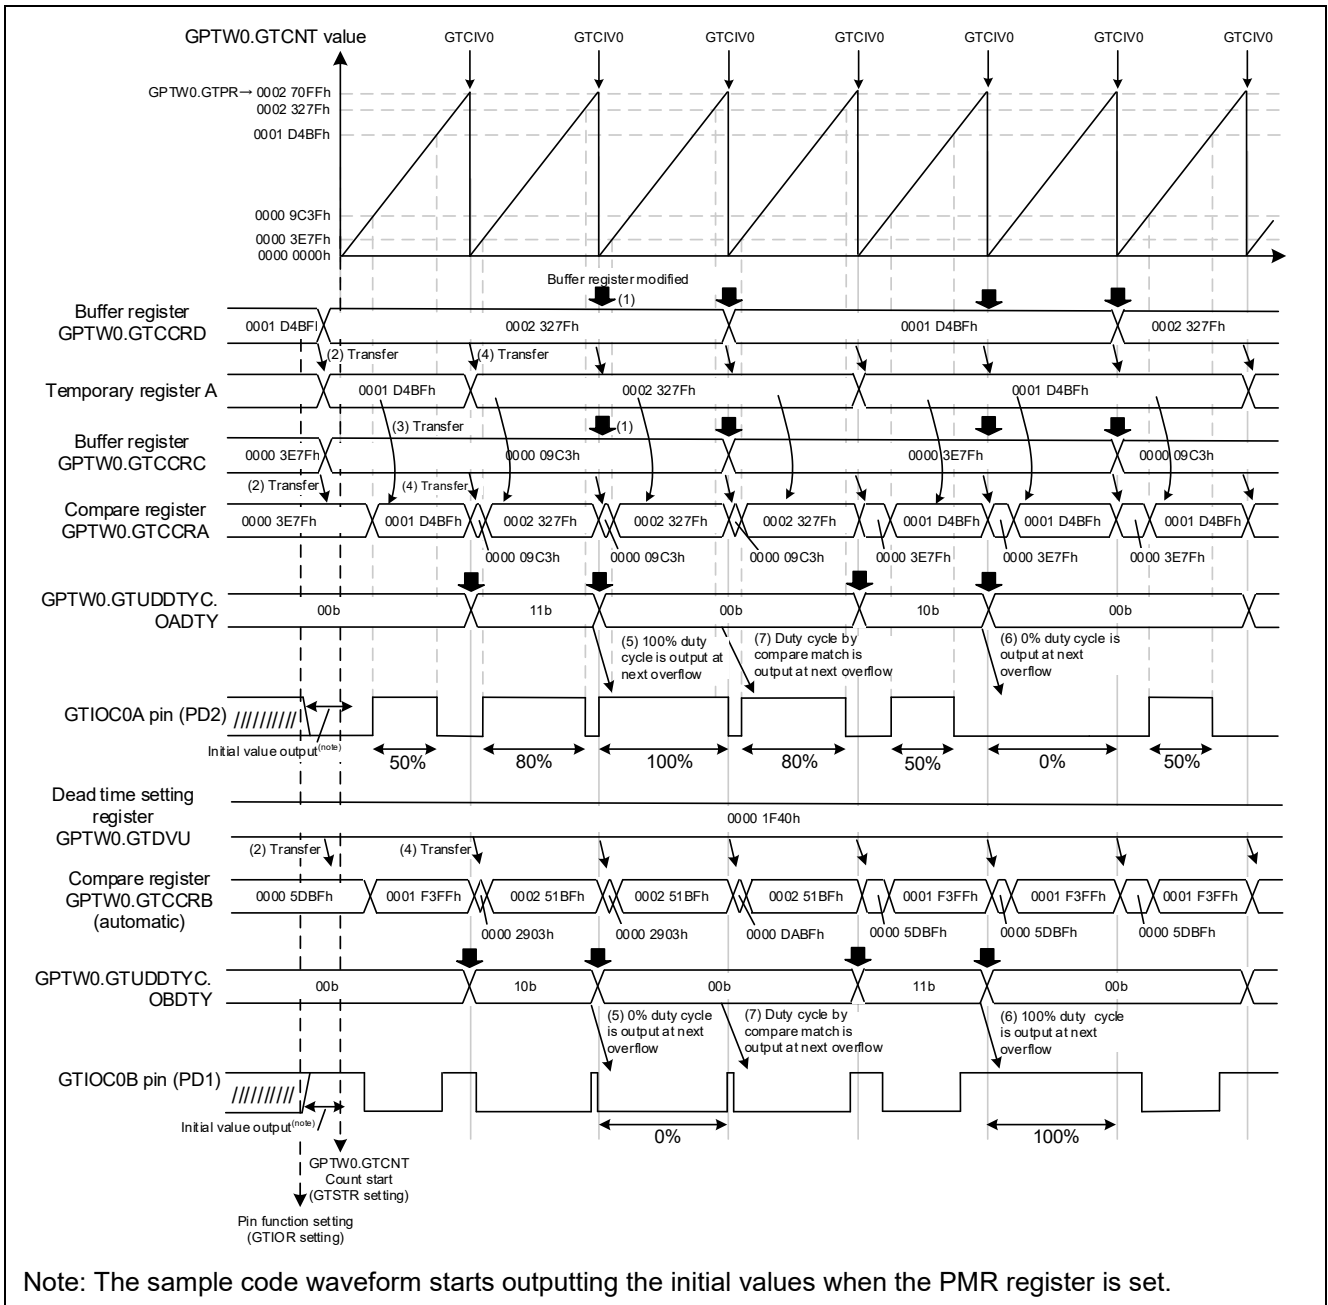

Figure 4.89 Sample Code Operations
- Refer to Figure 4.89 for details on duty change timing
The sample code operations are shown in Figure 4.89. The settings of the duty cycle are changed with each period by modifying the value of buffer registers GTCCRC and GTCCRD at the GTCNT counter overflow interrupt (GTCIV0) ((1) in Figure 4.89).
The initial values of the buffer registers for the code generated using the Smart Configurator are set to the same value as the compare register in this sample code. As a result, the buffer register values are set in the user initialization function `R_Config_GPT0_Create_UserInit` before the counting starts. The values set in the registers are transferred from buffer register GTCCRD to temporary register A and from buffer register GTCCRC to compare register GTCCRA, respectively, by forced buffer transfers ((2) in Figure 4.89).
1. Transfer from temporary register A to compare register GTCCRA when a GTCCRA compare match occurs ((3) in Figure 4.89).
2. Transfer from buffer register GTCCRD to temporary register A and from buffer register GRCCRC to compare register GTCCRA, respectively, when a GTCNT counter overflow occurs ((4) in Figure 4.89).
- 100% Duty Cycle Output ((5) in Figure 4.89)
- 0% Duty Cycle Output ((6) in Figure 4.89)
- Switching from Duty Cycles 100% and 0% ((7) in Figure 4.89)